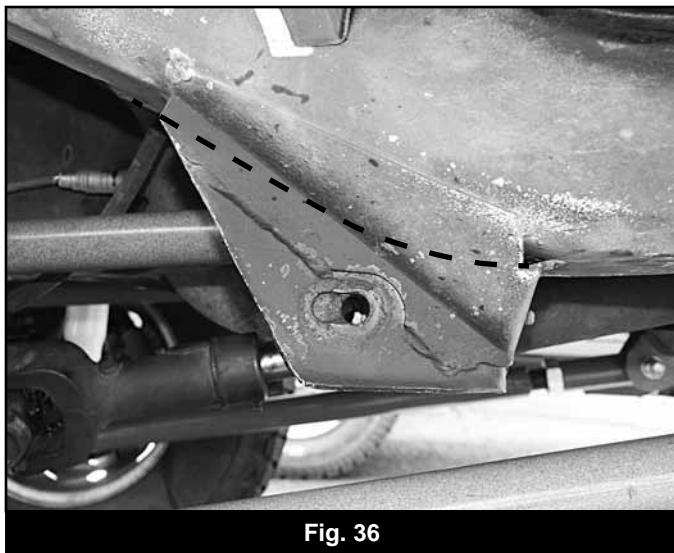

Fig. 36
1. Mark a cut line on the two lower control arm pockets that follow the contour of the frame (Fig 36). Using a reciprocating saw or cut-off wheel remove the pocket from the frame. Take care not to cut into the frame.